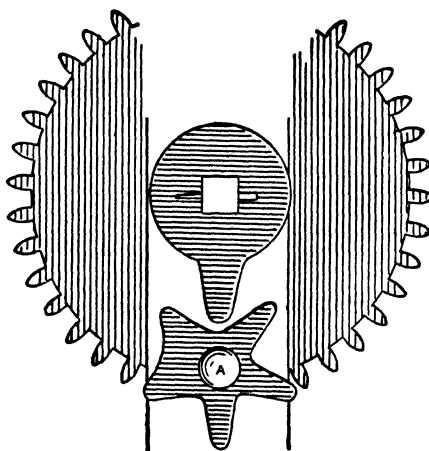

Fig. 67.—Stopwork of Alarm Clock
**Alarm Mechanism.**—The most common kind of alarm clock is perhaps the nickel-plated drum alarm. In putting together an alarm clock, after putting on the hour and minute hands, turn them round carefully and note the exact time the alarm goes off. Say this is at 6.30, then put the alarm hand on at exactly that hour and it will then be right, and wherever it is set will indicate the correct time of the alarm. Most alarm clocks have "stopwork" to the alarm spring (see Fig. 67). This is to stop the alarm when it has run for a certain distance and prevent its starting again after it has once stopped. To adjust the stopwork,